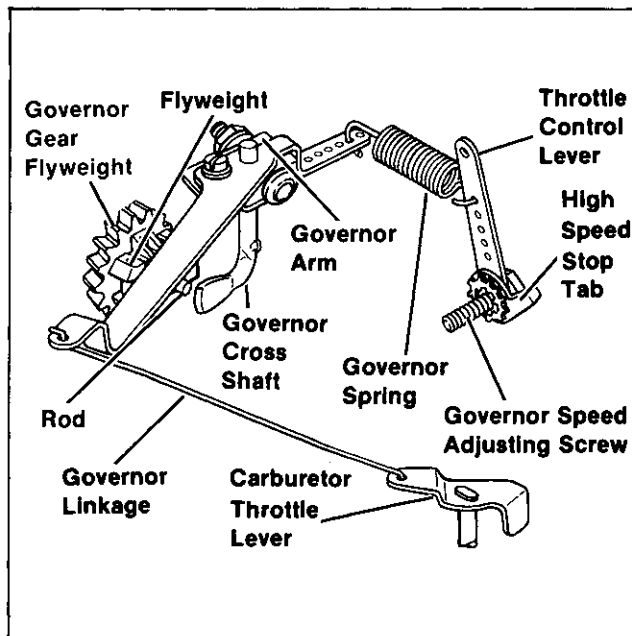

Figure 4-7. Governor Components
- 9. Connect fuel line, governor linkage and choke linkage to carburetor.** (See Figure 4-7.)
When a normal load is applied and engine (and governor) speed decrease, the tension of the governor spring rotates the governor arm to open the throttle valve wider. This admits more fuel and restores engine speed. (With the governor properly adjusted, this action takes place so rapidly, a reduction in speed is hardly noticed.) As speed reaches the governed setting, the tension of the governor spring and the force applied by the governor gear will again be in equilibrium, maintaining speed at a relatively constant level. For identification of the governor components mentioned above, see Figure 4-7.